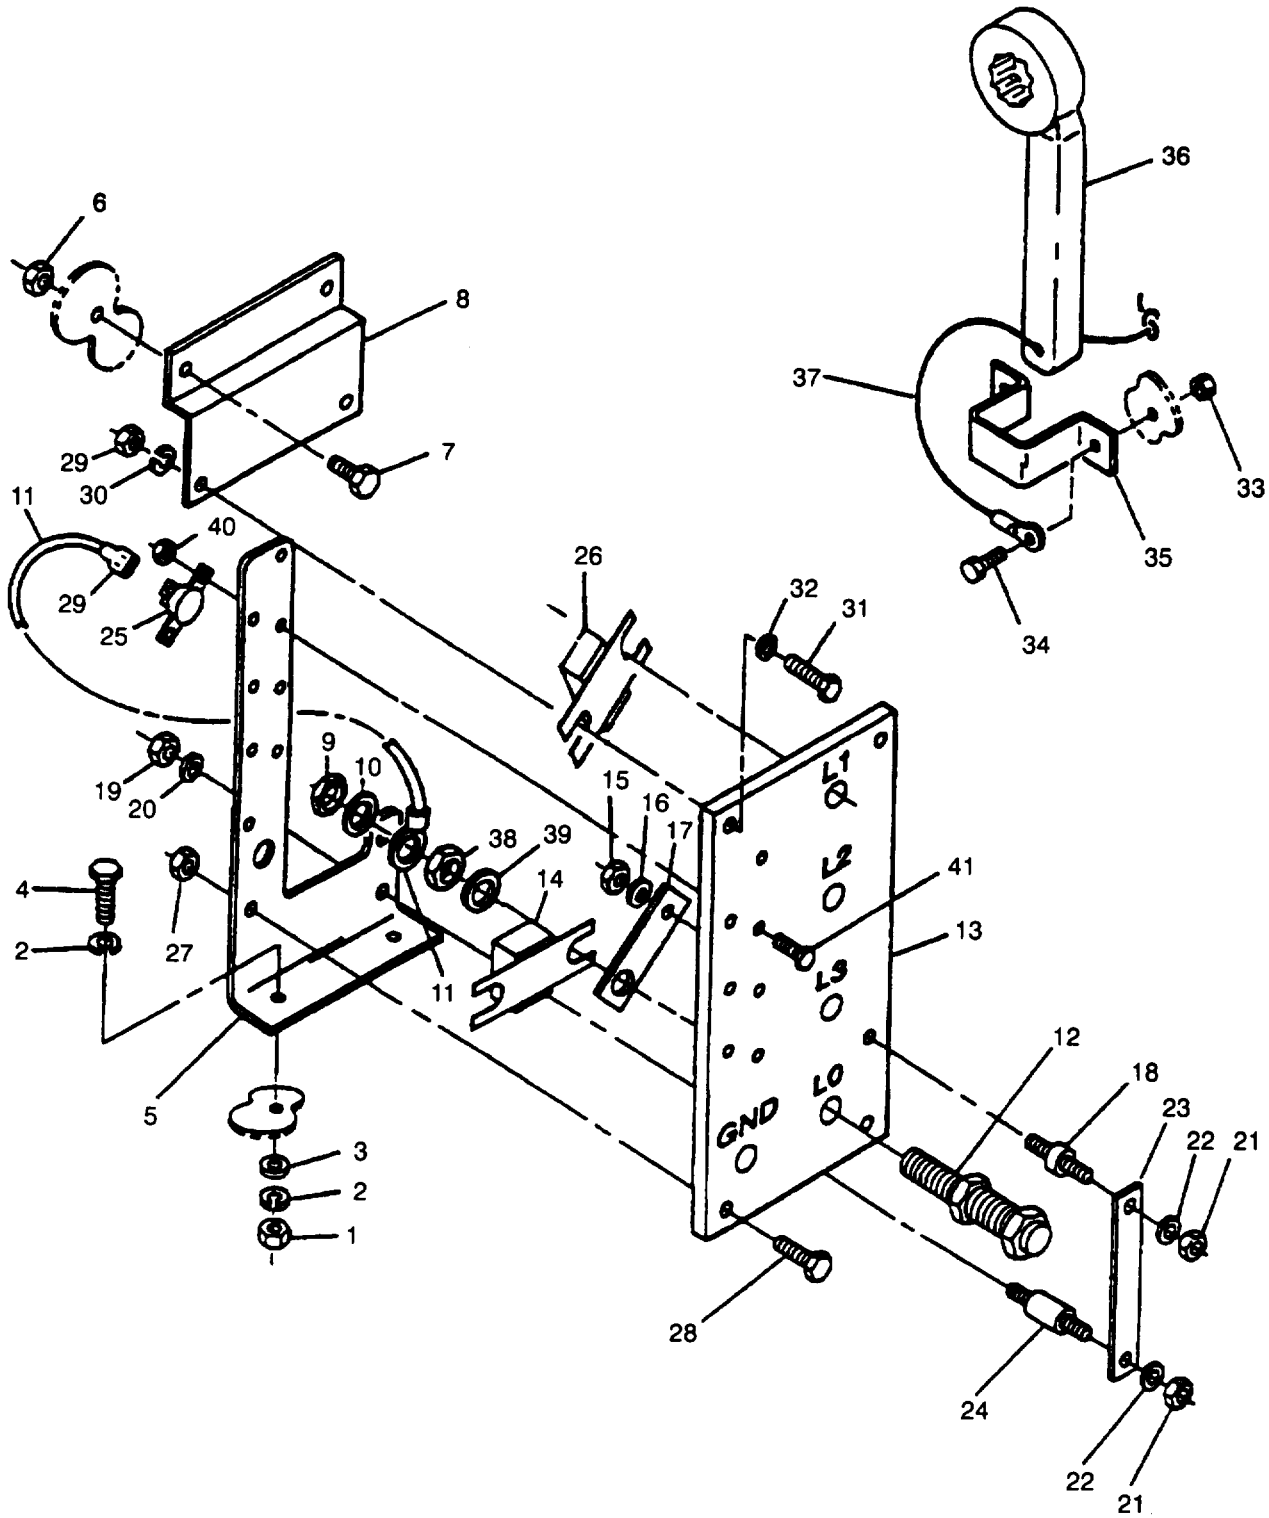

Figure 2-26. Load Output Terminal Board Assembly
- d. Remove nuts (1, Figure 2-26), lockwashers (2), washers (3), and bolts (4) securing ground plane bracket (5) to generator set.
- e. Remove nuts (6) and bolts (7) securing load terminal board assembly mounting bracket (8) to generator set.
- f. Remove nuts (9) and copper washers (10). Tag and disconnect main power leads and varistor leads (11) from load terminals (12).
- g. Remove ground plane bracket (5) and terminal board (13) from generator set as an assembly.
- h. Remove load terminals (12) from terminal board (13), paragraph 2-98-1.
- i. Remove EMI filter (14) positioned between LO and GND terminals (12).
- j. Remove nut (15), washer (16), and bus bar (17) from standoff (18).
- k. Remove nuts (19) and (21), washers (20) and (22), ground bar (23), and standoffs (18) and (24) from terminal board (13).
- l. Disconnect varistor leads (11) from varistors (25) and remove leads from assembly.
- m. Remove varistors (25) from load terminal board assembly, paragraph 2-99-1.
- n. Remove EMI filters (26) positioned between load terminals (12) and varistors (25).
- a. Tie cord (37, Figure 2-26) to wrench (36). Install wrench (36) and bracket (35) in generator set with bolts (34) and nuts (33).
- b. Align terminal board (13) with ground plane bracket (5) and install bolts (28) and nuts (27).
- c. Position EMI filters (26) between varistors (25) and L1, L2, and L3 load terminals (12) mounting holes.
- d. Install varistors (25), paragraph 2-99-3.
- e. Install standoffs (24) and (18) and ground bar (23) to terminal board assembly with washers (20) and (22) and nuts (19) and (21).
- f. Install bus bar (17) on standoff (18) with washer (16) and nut (15).
- g. Position EMI filter (14) between LO and GND load terminals (12) mounting holes.
- h. Install load terminals (12), paragraph 2-98-3.
- i. Install mounting bracket (8) on terminal board assembly with bolts (31), washers (32), lockwashers (30), and nuts (29).
- j. Connect varistor electrical leads (11) to varistors (25).
- k. Position load output terminal board assembly in generator set and connect varistor leads (11) and main electrical leads to load terminals (12) with copper washers (10) and nuts (9). Remove tags.
- e. Remove nuts (38, Figure 2-26), copper washers (39), and load terminals (12) from load output terminal board assembly.
- a. Install load output terminals (12, Figure 2-26) on load output terminal board assembly with copper washers (39) and nuts (38).
- d. Tag and disconnect varistor leads, (11, Figure 2-26) from varistors (25).
- e. Remove nuts (40), bolts (41), and varistors (25) from load output terminal board assembly.
- a. Install varistors (25, Figure 2-26), on load output terminal board assembly with bolts (41) and nuts (40).
- b. Connect varistor leads (11) to varistors (25) and remove tags.